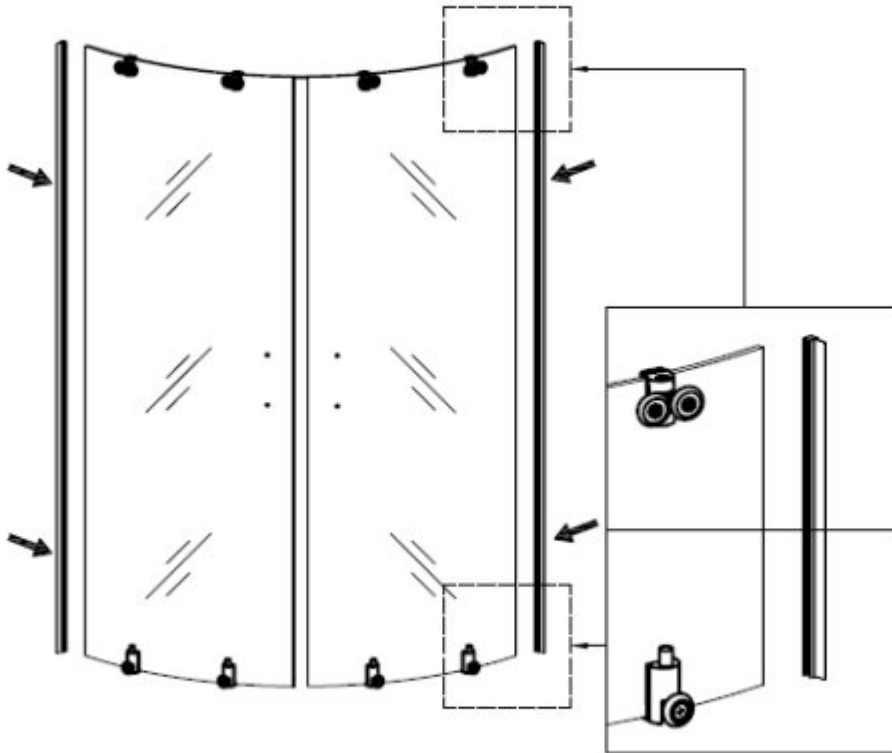

Figure 11
11. Click the strip(N6Q7) to the moving panel(N6Q5),as showed in figure 11.